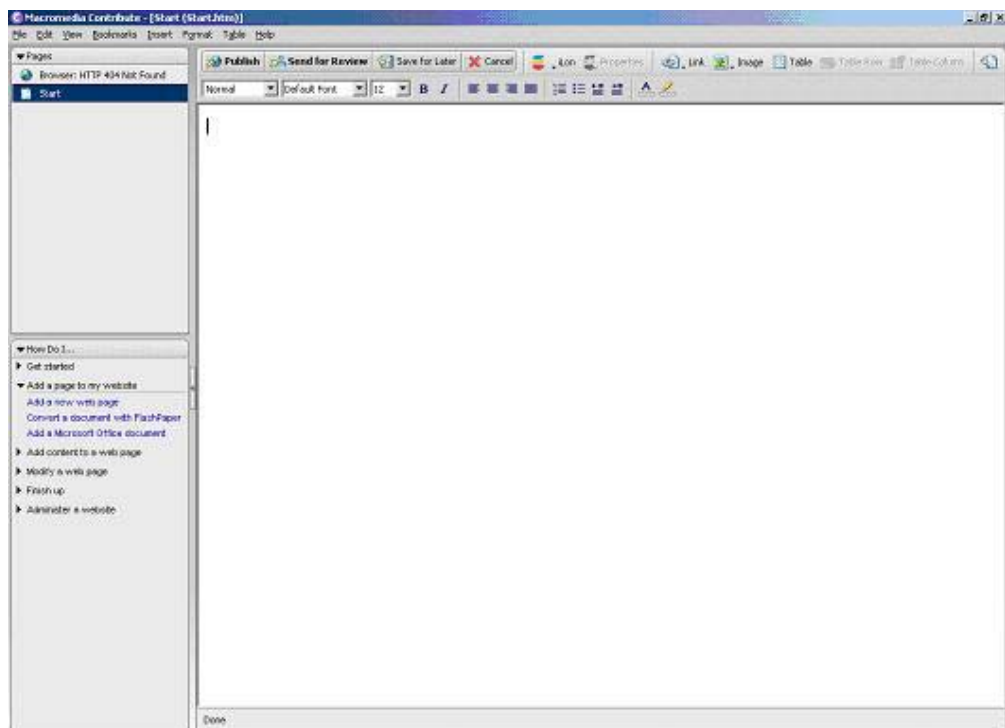

Figure 13.24 Start.htm Web Page Window
2. Select **Blank Web Page** as the page type, enter **Start** in the Page Title box, and then click **OK**. The window shown in Figure 13.24 opens.
5. Click **Select** to select the new folder. This returns you to the Publish New Page window. Click **Publish** to publish the Web page. A window opens informing you that the page has been published, and you will return to the window shown in Figure 13.24.